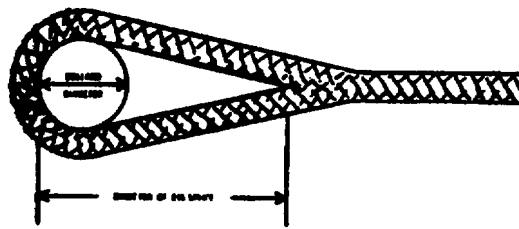

Fig. 2-27 Mooring line eye dimensions
- 3 Eye Splices. The ratio of the length of an eye-splice to the diameter of the object over which the eye is to be placed (bollard, bitt, cleat, etc.) shall be a minimum of 3 to 1, preferably 5 to 1. If you have a bollard two feet in diameter, the eye splice should be six to ten feet in length (See **Figure2-27**). By using this ratio the angle of the two legs of the eye-splice, at its throat, will not be so severe to cause a parting in the eye.